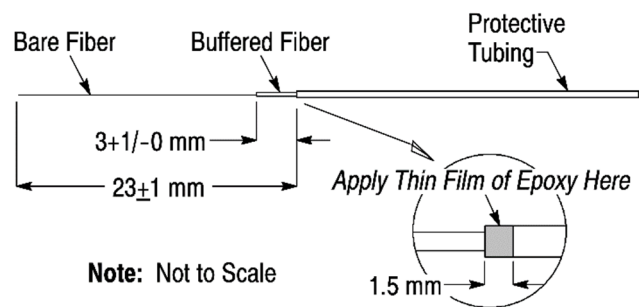

Figure 4
c. Mark the protective tubing to the dimension shown in Figure 4. Using Slot 22 of the fiber jacket stripper, strip the tubing to the marking.
d. Using the fiber stripping tool, strip the buffered fiber to the dimension shown in Figure 4, exposing the bare fiber. Using a lint-free tissue or cloth dampened with the isopropyl alcohol or acetone, clean the bare fiber.
f. Apply a *thin film* of epoxy around the outside edge of the tubing to the width given in Figure 4.